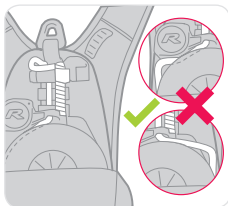

Figure 6
- Inspect descent line for any 'slack' between the drum and rack (Figure 6). If the line is slack the Latchways PRD shall be removed from service and advise sought from Latchways or authorised agent.